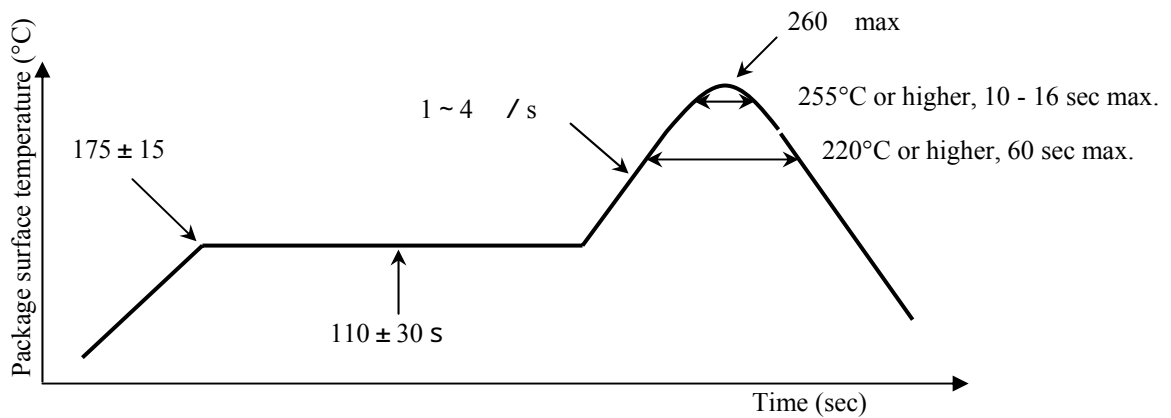

Fig.1 Reflow method temperature profile
When mounting the IC chip at a high temperature using by reflow soldering, the melting temperature of the solder depends on the mounting board and paste adhesive materials of the mounting board and the paste adhesive. Referring to the mounting temperature profile shown in Fig. 1, choose an the optimum soldering temperature lower than within the profile.
- [Temperature] The surface temperature profile of the device is shown in Fig. 1.